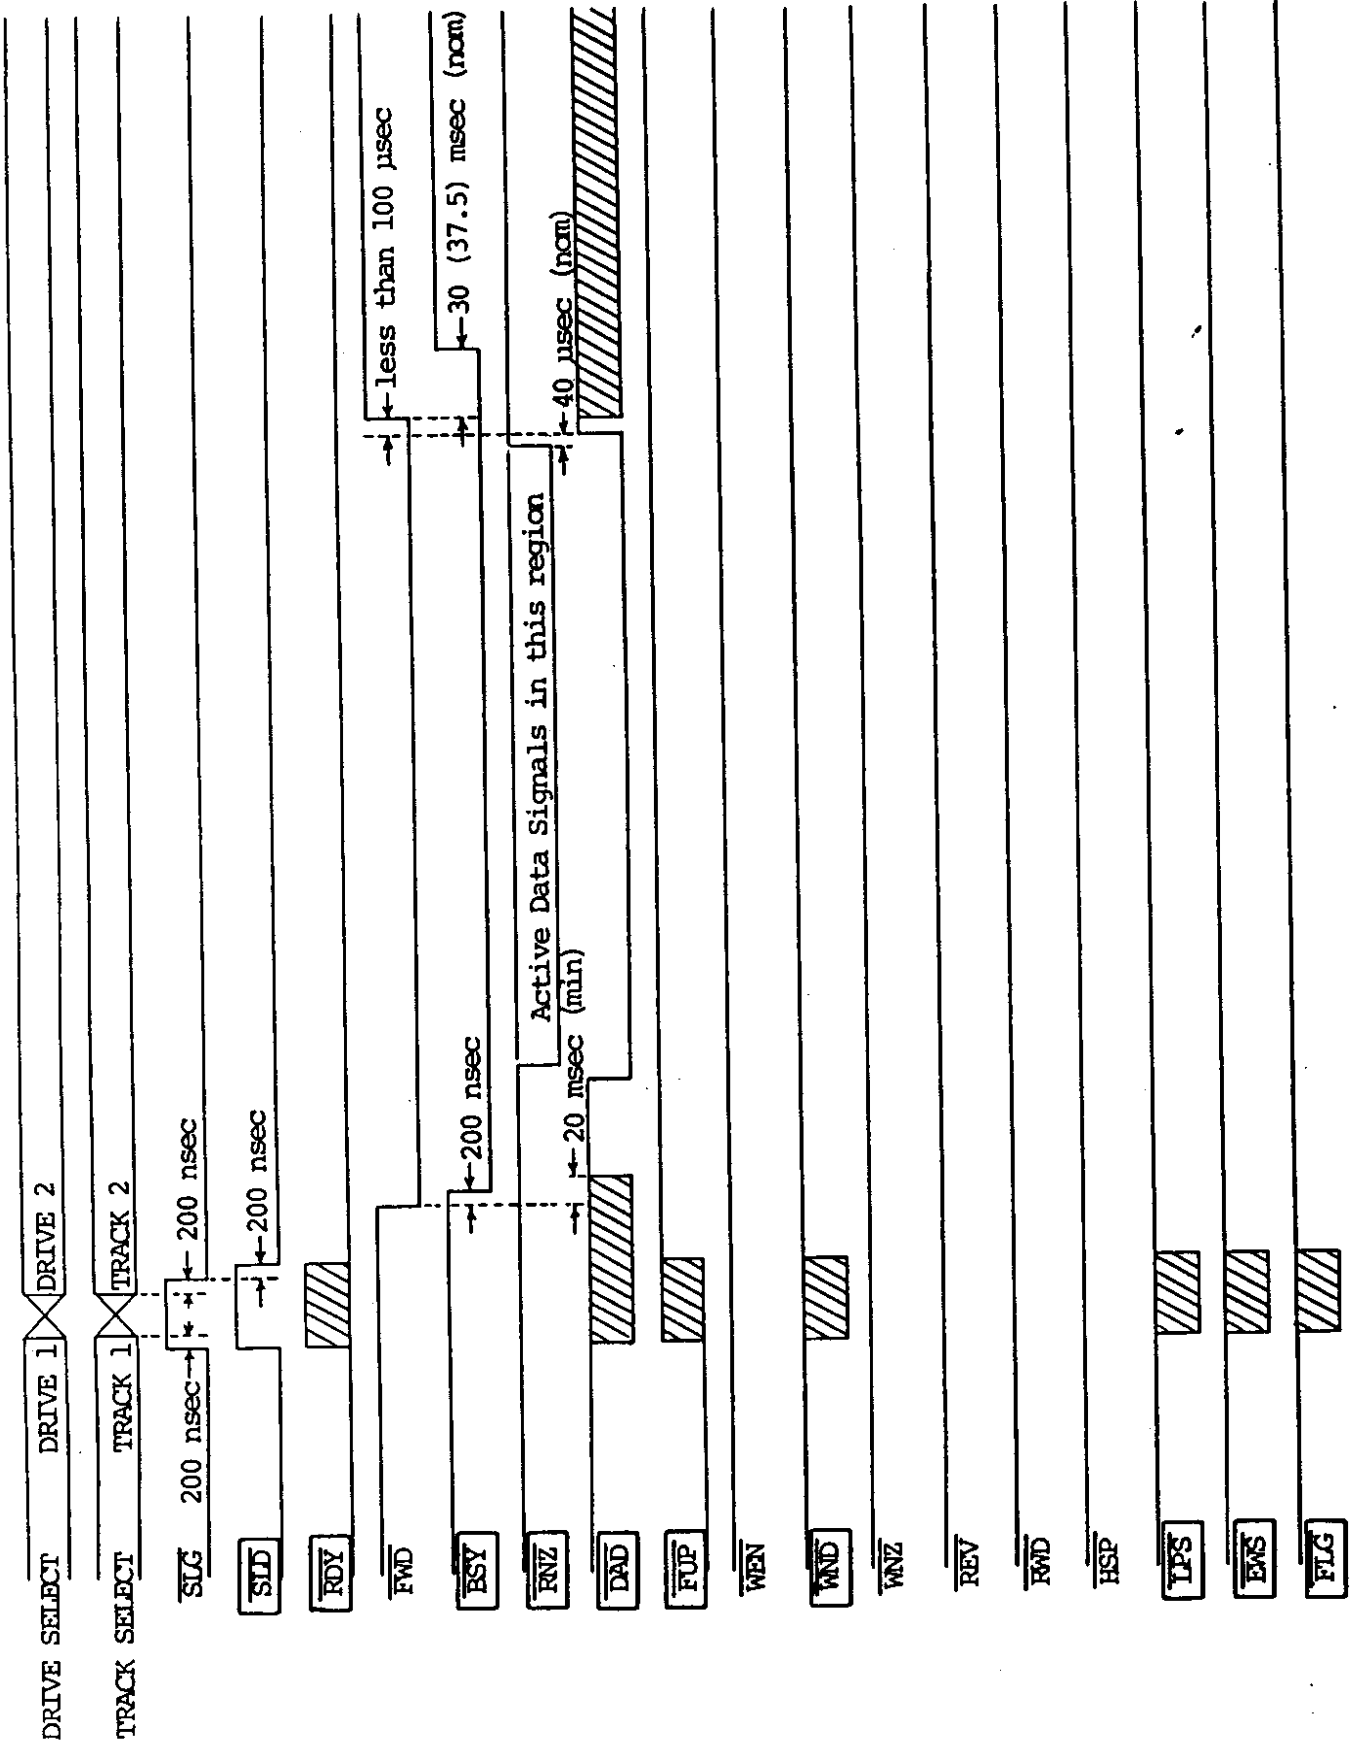

Figure 5.3, Read Timing Diagram
5.3.2 READ OPERATIONS. The read operation is shown in figure 5.3. Note the following: